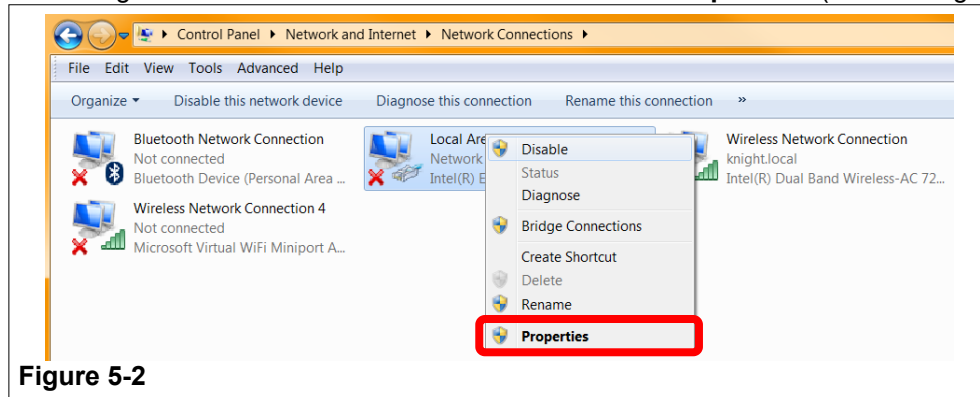

Figure 5-2
- b. Right click on **Local Area Connections**. Select **Properties**. (Refer to Figure 5-2)